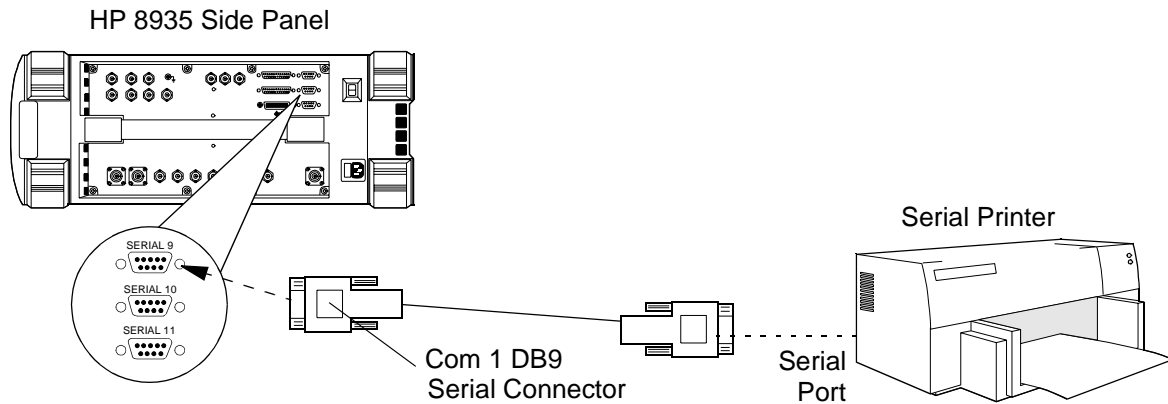

Figure 29 Test Set to Serial Printer Connection
5. Connect the serial printer to the Test Set's SERIAL 9 port (see figure 29).